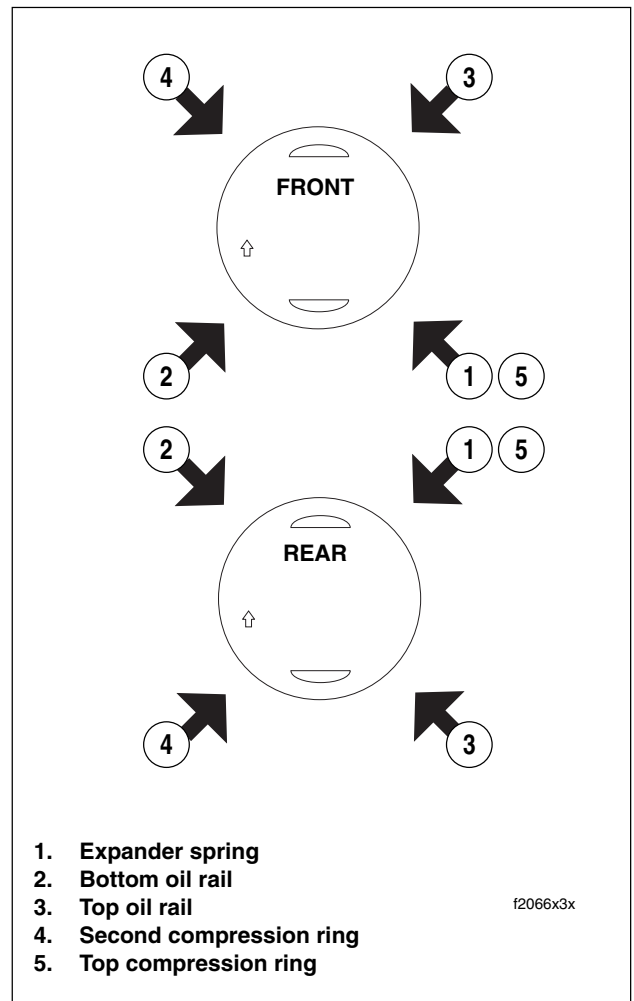

Figure 3-92. Piston Ring Gap Alignment
- f. Verify that the ring gaps are still properly staggered. See Figure 3-92.